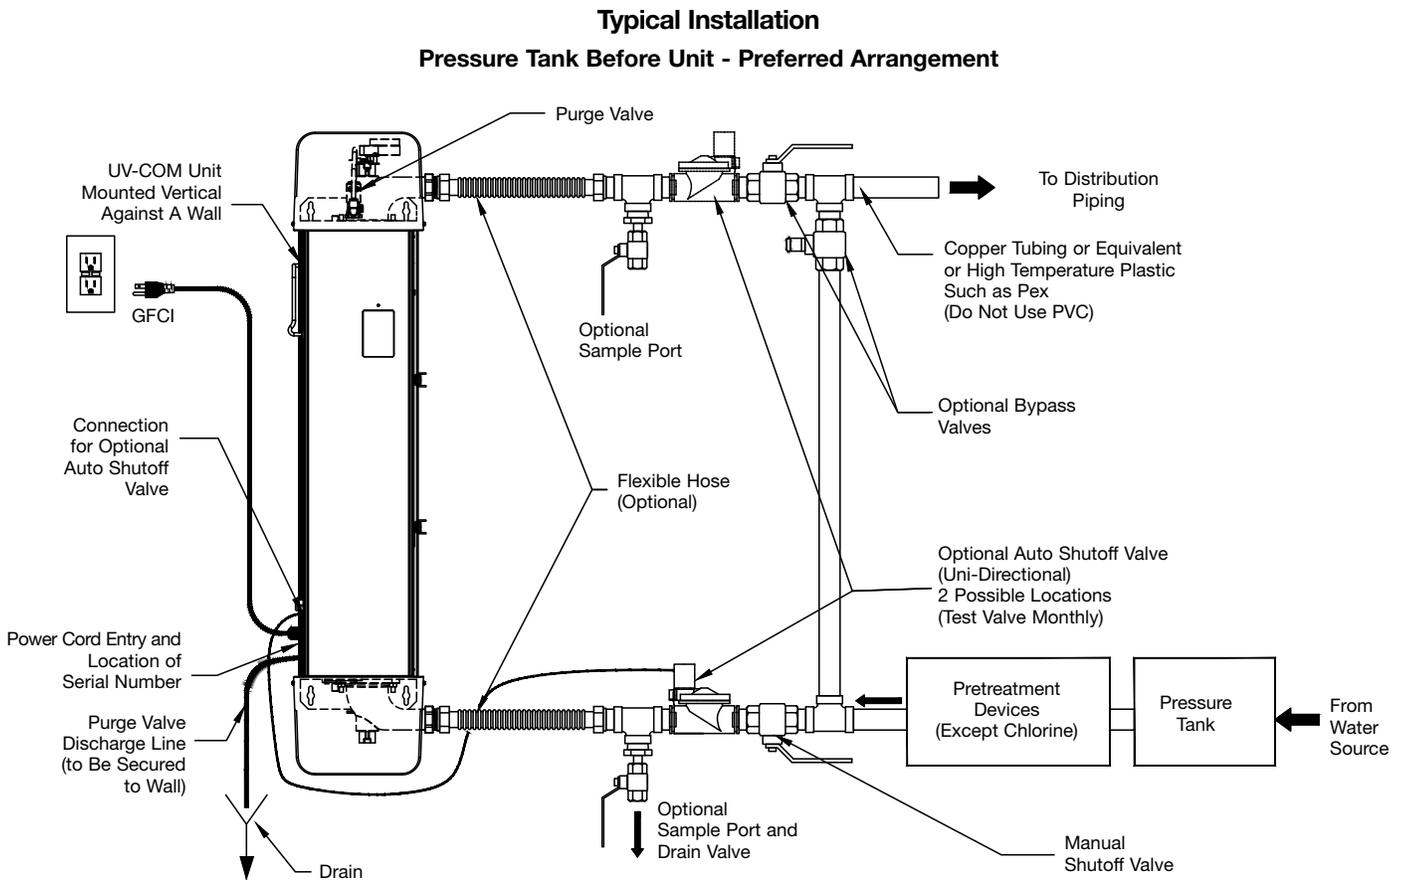

Figure 4-2
These fittings, pipe insulation, and any piping compatible with the plumbing should be on hand before you begin installation. See Figure 4.2 and make a list of all necessary components including solder, paste and thread sealant. Bypass piping and valves that isolate the unit are optional, (but recommended) as is a drain valve for draining the unit.
1. See Figure 4.2 on how to arrange the piping and optional devices such as the auto shutoff valve, bypass line, sample ports and drain. If the pressure tank is downstream of the unit, a purge valve relocation kit is required.